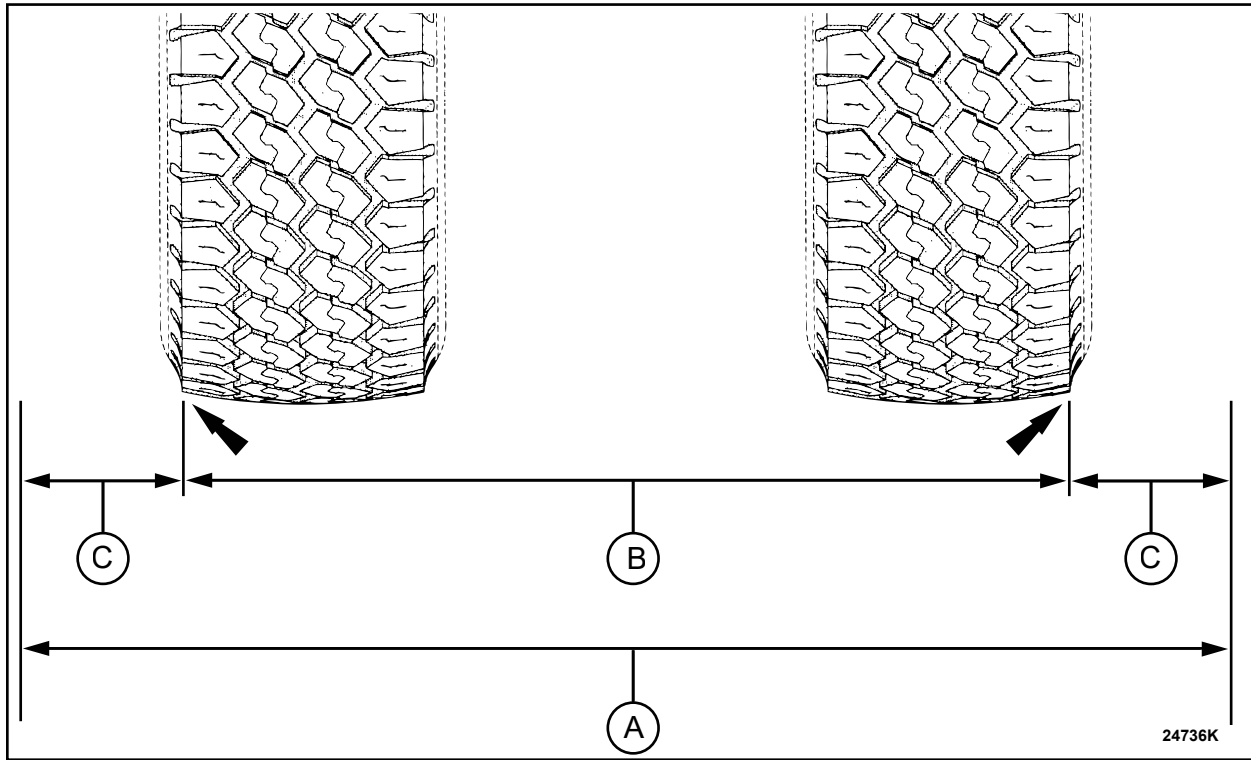

FIGURE 3
7. Calculate the mat spacing distance from the tire: $(A-B)/2=C$. See Figure 3.